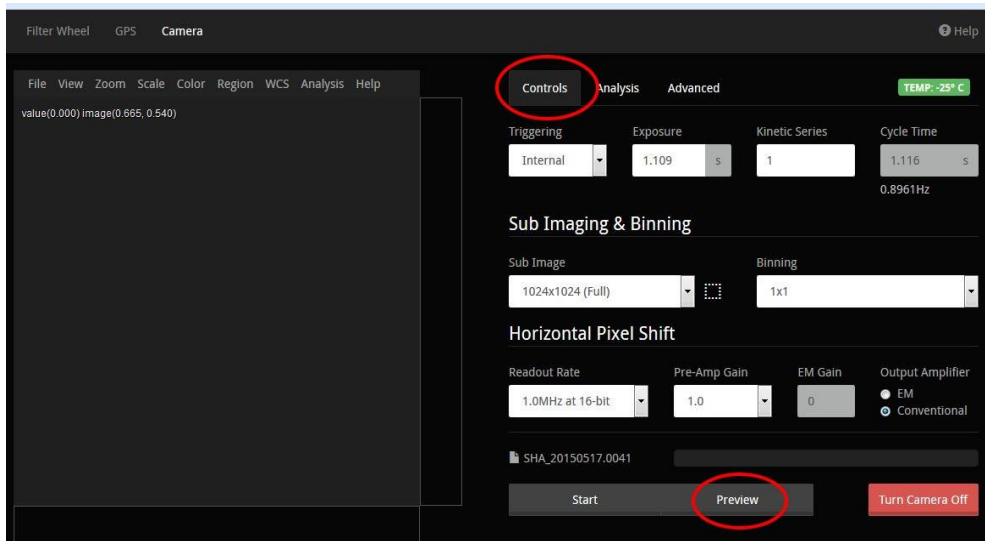

Figure 8: Camera “Controls” Tab
8. Check that the camera is reading out: Click on the “Controls” tab (Figure 8), confirm the setting is full frame, conventional mode (the default) and press "preview". Images should appear every ~ 1.2 sec. Once confirmed that images are coming through, press "stop". Note that camera has no shutter, therefore before bias frames can be taken, the dome lights must be switched off, ensure dome shutters and cover is closed (its not necessary that it should be completely dark inside the dome, but there should be no direct light falling in the optical path). Running the cursor over the image display area will bring up a notification panel with X,Y coordinates and the count at this position. The counts should be around 400 or so.